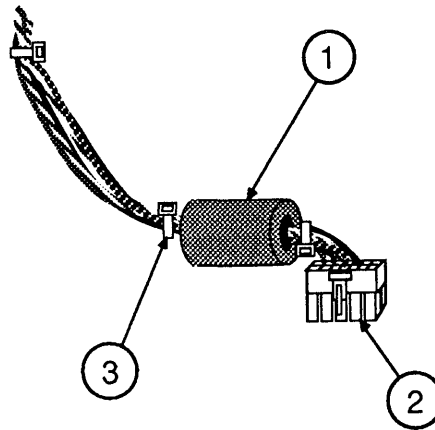

FIGURE 26
New video boards come with an attached ferrite bead (Figure 26, #1) to reduce interference. If your video board does not have a ferrite bead attached to the cable, **and you are installing a new analog board that is packaged with a clip-on ferrite bead**, install the ferrite bead on the video board cable as shown in steps 1 and 2 below.
1. Position the clip-on ferrite bead (Figure 26, #1) around the video board cable as near the video board connector (Figure 26, #2) as possible. Snap the ferrite bead shut.
2. Install a plastic tie-wrap (Figure 26, #3) on the cable to hold the ferrite bead near the connector. Cut off excess tie-wrap.